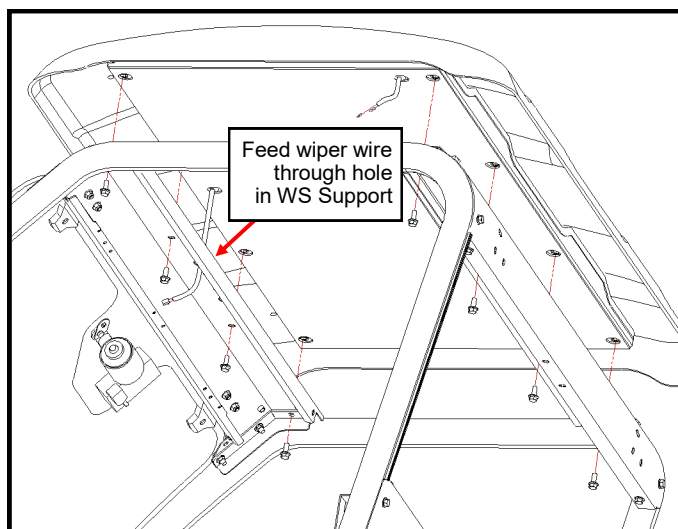

Figure 4.1: Roof Installation
- With assistance, place the roof assembly on top of the frame (**Figure 4.1**) and feed the wire at the front-center of the metal roof pan through the larger hole at the center, closer to the driver's side in the windshield support.
- (8) 5/16-18 x 3/4" Flanged Hex Head Bolts
- Align the threaded inserts in the roof with the holes in the windshield support and upper rear panel and install four 5/16-18 x 3/4" bolts through each panel and into the inserts in the roof (**Figure 4.1**).